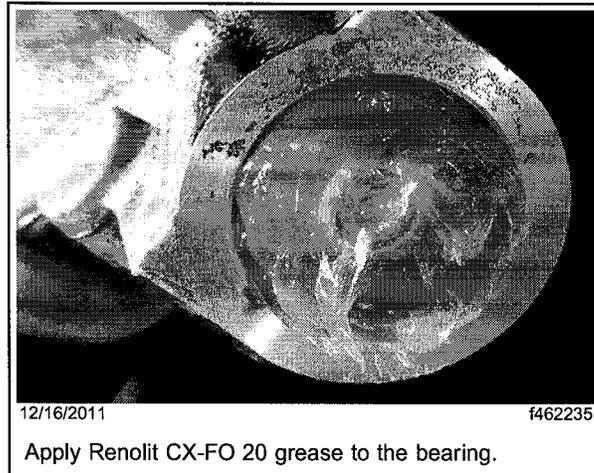

Fig. 4, Greased Bearing
1. Fill the ball bearing and hexnut to slightly above flush with Renolit CX-FO 20 grease. See Fig. 4.